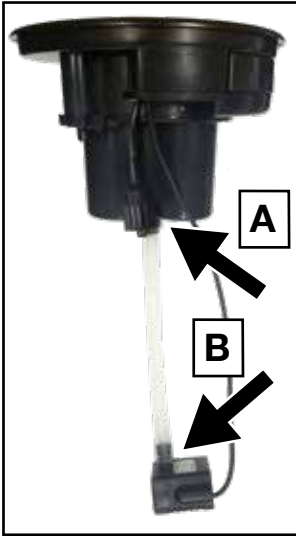

Figure 3a
1. Connect one side of the Water Tube to the Water Pump and the other end of the tube to the bottom side of the Battery Compartment (A & B of Figure 3a).